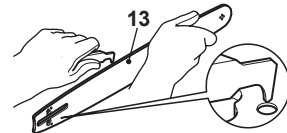

Fig. 43
3. Check the drive sprocket (11). If it is worn or damaged due to strain, have it replaced by an authorised service agent or a similarly qualified person.
4. Clear residue from the rails on the guide bar (13) by using a screwdriver, putty knife, wire brush or other similar tool. This will keep the oil passages open to provide proper lubrication to the guide bar (13) and saw chain (12) (Fig. 43).